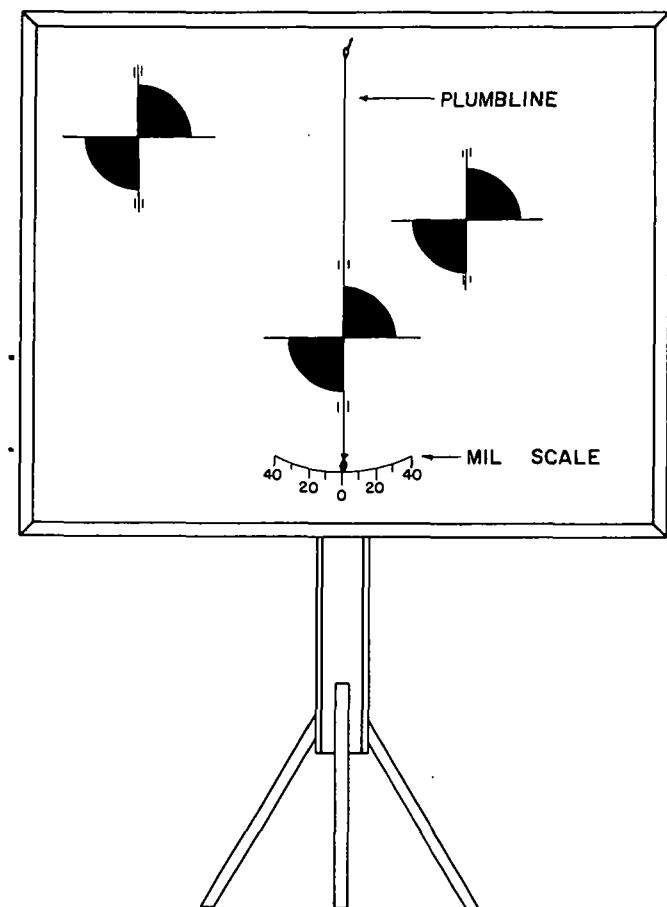

Figure 10. Testing target.
- (1) Mount the testing target on a flat piece of material and fasten it to a stand to provide stability (fig. 10).
- (2) Install a plumbline and mil scale for use in leveling or canting the target (fig. 10).
- (3) Draw vertical reference lines for use when the trunnions are not level. The testing target must be canted an equal amount and in the same direction (fig. 10).
- (4) To facilitate boresighting in darkness, bore a $\frac{1}{16}$ -inch hole through the center of each aiming diagram and cover each hole with a piece of heavy cloth. A